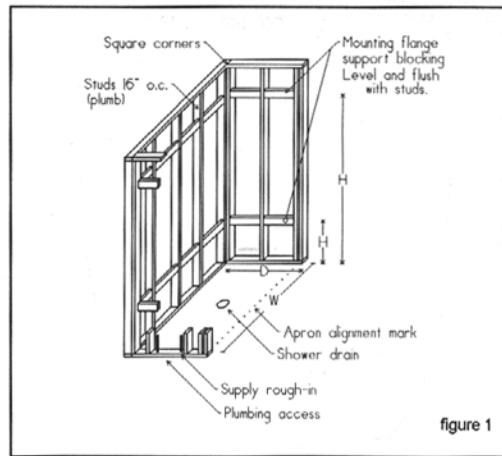

figure 1
FRAMING AND PLUMBING ROUGH-IN (figure 1)
1. Construct a framing pocket with appropriate height(H), width(W) and depth(D) as shown in **fig. 1**. Ensure corners are square and walls are plumb. Provide plumbing access.